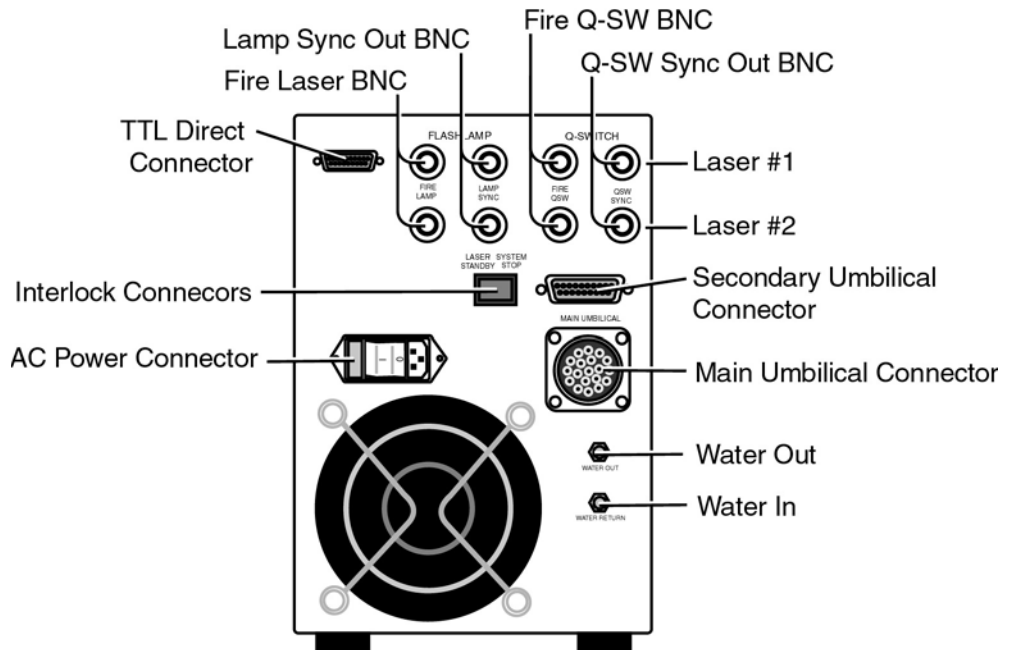
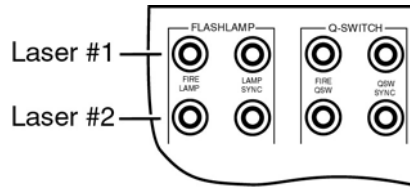

Figure 3-1: Power Supply Back Panel
Figure 4-2: Power Supply BNC input/output Connections
An external interlock connector is supplied with the system and must be installed before the system can be operated. The purpose of the interlock connector is to provide a method of interlocking the operation of the laser with a safety switch that may be installed on a laboratory door or other location. See Figure 3-1 for the location of the interlock connector.
**Inputs and Outputs** Two sets of four external BNC connectors (one set for each laser) are located on the back of the power supply. For each laser two sets of the connectors are inputs for triggering the laser. The other two are outputs used for synchronizing the laser to other equipment. The location of the BNC I/O connectors is shown in Figure 3-1, with detail in Figure 4-2.